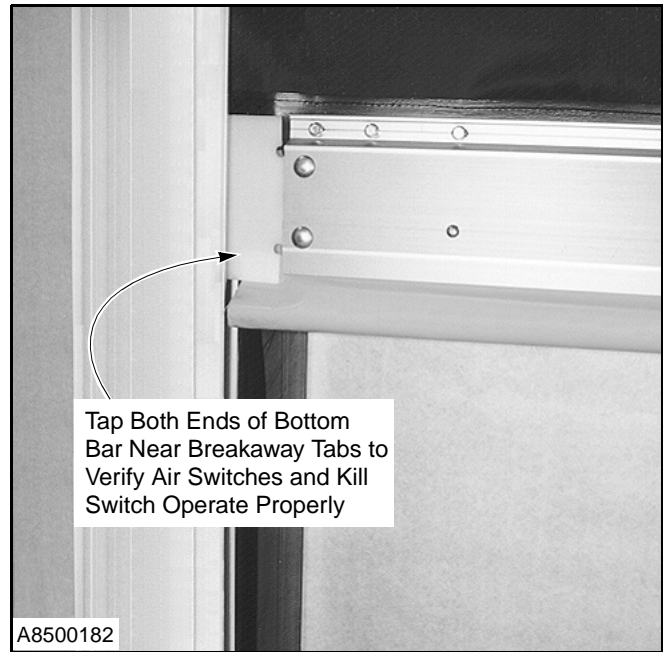

Figure 42
6. To verify the kill switch system is operating properly, with the ohmmeter across both terminals, gently tap on one end of the bottom bar, near the breakaway tabs to activate the air switch at that end of the bottom bar. (See Figure 42.)